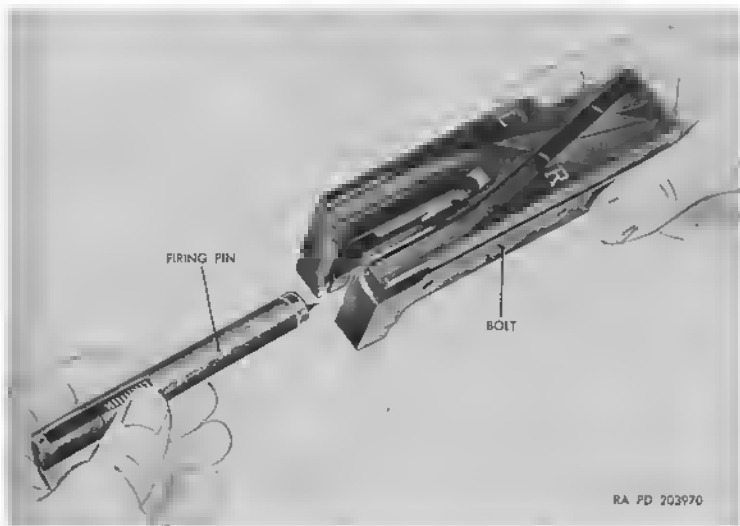

Figure 39. Removal of firing pin assembly.
e. Remove the firing pin assembly (fig. 39) and disassemble firing pin assembly by using a drift to drive out the firing pin spring pin. This allows the firing pin spring to fall out of firing pin.